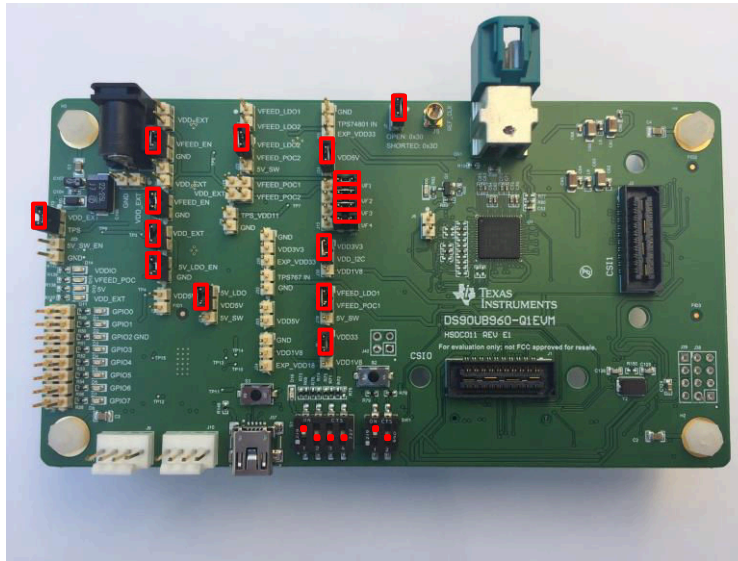

Figure 5-1. DS90UB960-Q1EVM Jumper and Switch Configuration
1. Ensure all jumpers and switches are placed and configured as shown in Figure 5-1